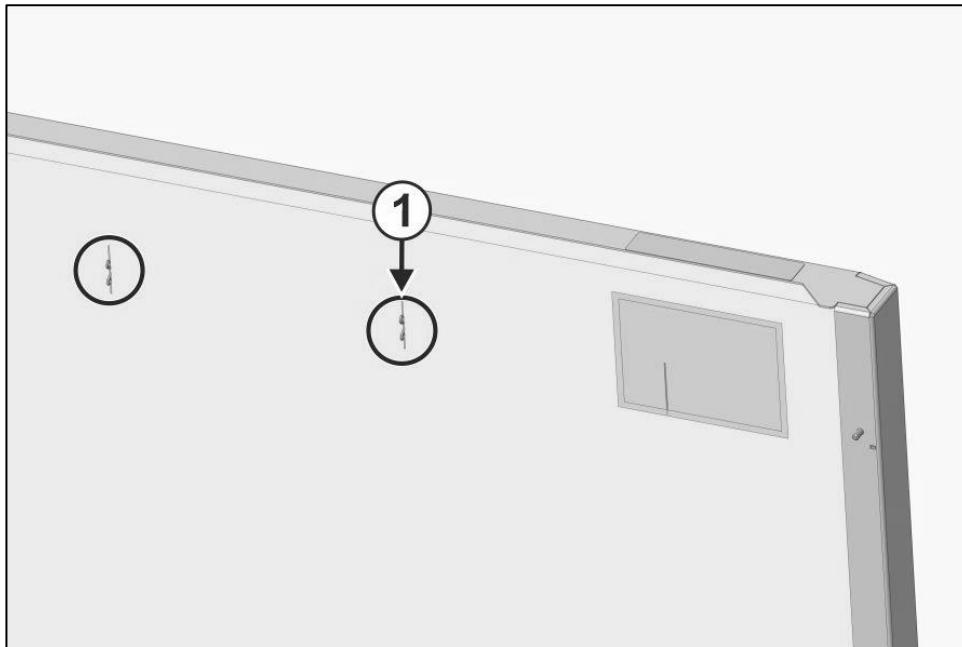

Fig. 21: DK50 2x2V/110S/M cabinet clamps
- Connect the display at the front door of the cabinet and then secure the cord to the display in the clamps (1) (Fig. 18, Fig. 21).
- Attach the front panel to the cabinet, connect the display connector (Fig. 17), and secure the cord to the display in the clamp (1) in the front door (Fig. 21).